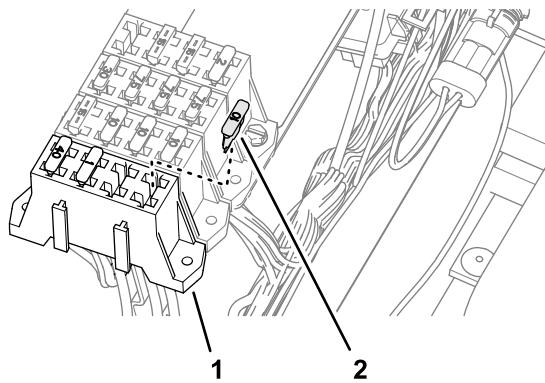

Figure 83
2. Insert the fuse (10 A) into the fuse-block socket (Figure 83) for the options power circuit that you used in step 1.